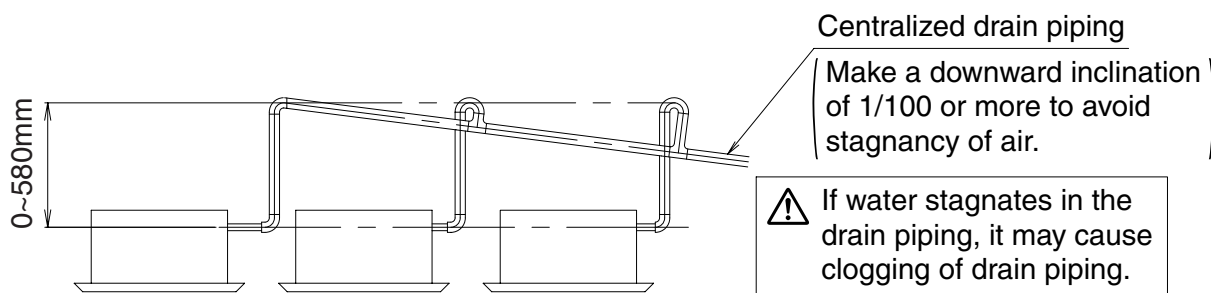

Fig. 14
- To avoid the attached drain hose (1) getting excessive force, do not bend nor twist it. It may cause water leakage.
- In case of centralized drain piping, carry out piping work according to the procedure shown in the following **Fig. 14**.